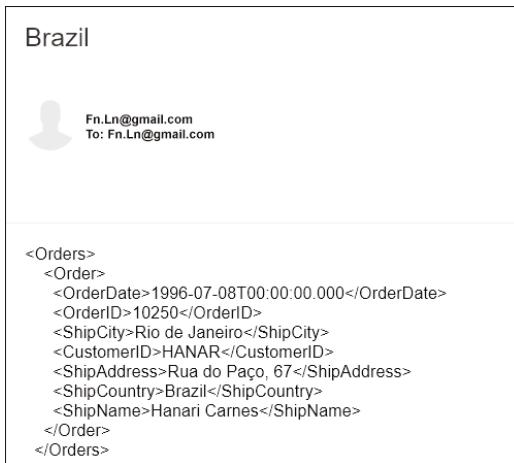

Figure 6.16 Email with Subject Brazil
11. You should receive an email that looks similar to the one shown in Figure 6.16, this time with the Subject **Brazil** (as the order number 10250 identifies a Brazilian order).